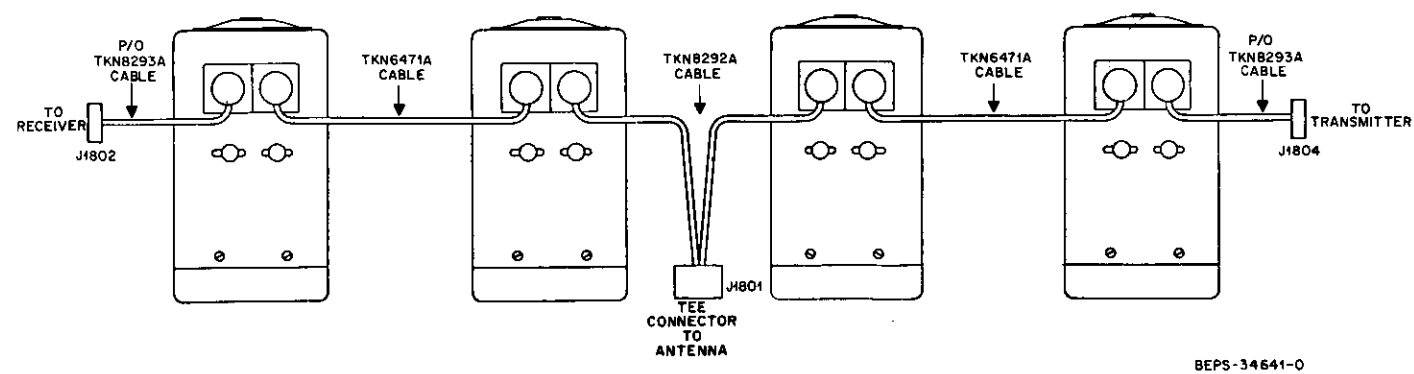

Figure 4. Duplexer Wiring Detail
Step 4. Connect the duplexer to the transmitter and receiver. See Figure 4.